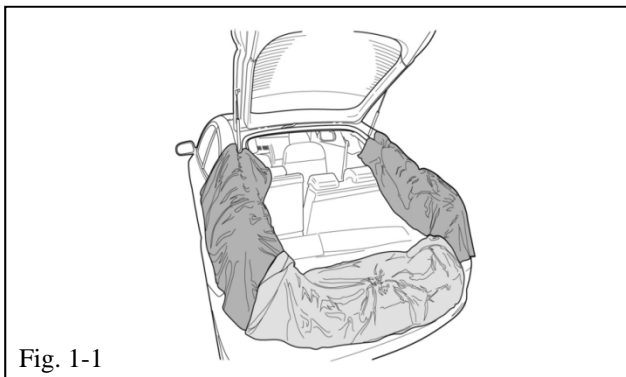

Fig. 1-1
- (b) Place blankets inside the cargo area and the lift gate opening (Fig. 1-1).